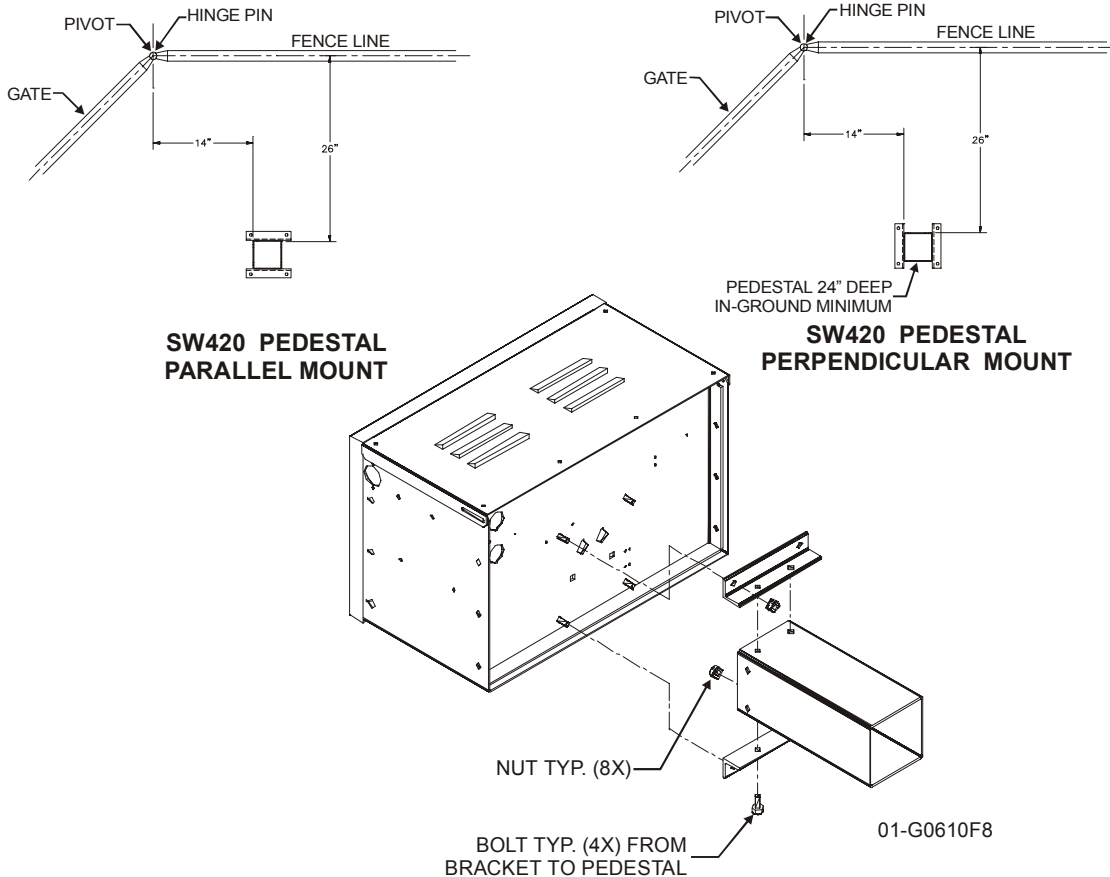

Figure 8
- 1 Locate pedestal according to Figure 8. Locate the electrical conduit. Wires may be run inside pedestal and through holes in the bottom of chassis.
- 3 Bolt the mounting brackets to the pedestal as shown in Figure 8.